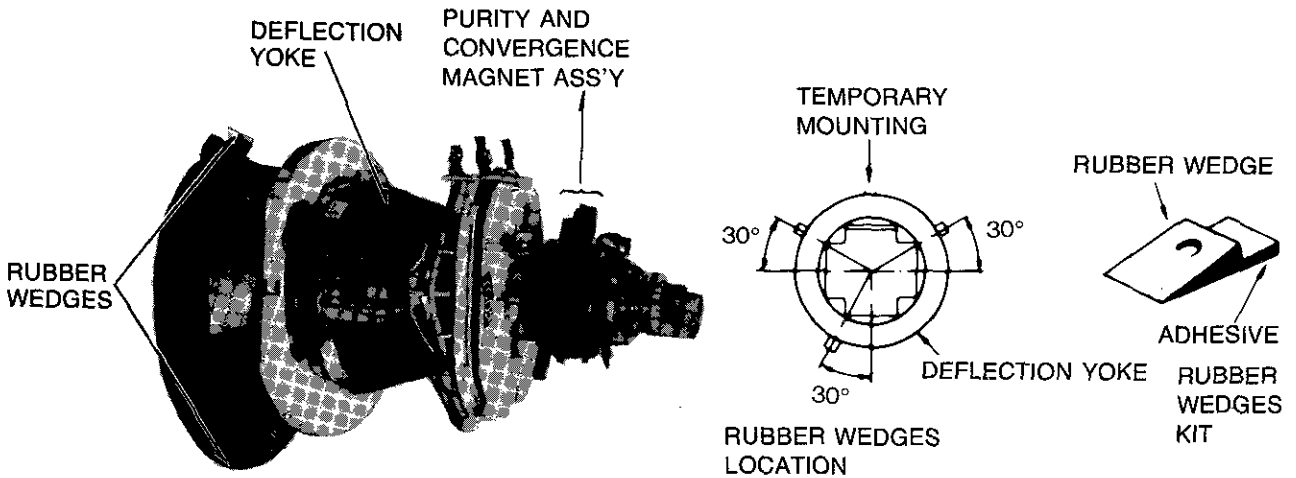

Figure 14
CAUTION: Convergence and Purity have been factory aligned. Do not attempt to tamper with these alignments. However, the effects of adjacent receiver components, or replacement of picture tube or deflection yoke may require the need to readjust purity and convergence. Convergence magnet assembly and rubber wedges need mechanical positioning following the figure 14. Before attempting any convergence adjustments this receiver should be operated for at least fifteen minutes. If adjustment is required the adjustments should be made in the following sequence.
2. Adjust DY to obtain a better convergence in the circumference by orbital movement of the front of the yoke, then secure the DY in appropriate position by placing the wedges as illustrates in figure 14. Tighten screw holding the DY. Stick 3 adhesive tapes on wedges as shown in figure 14.